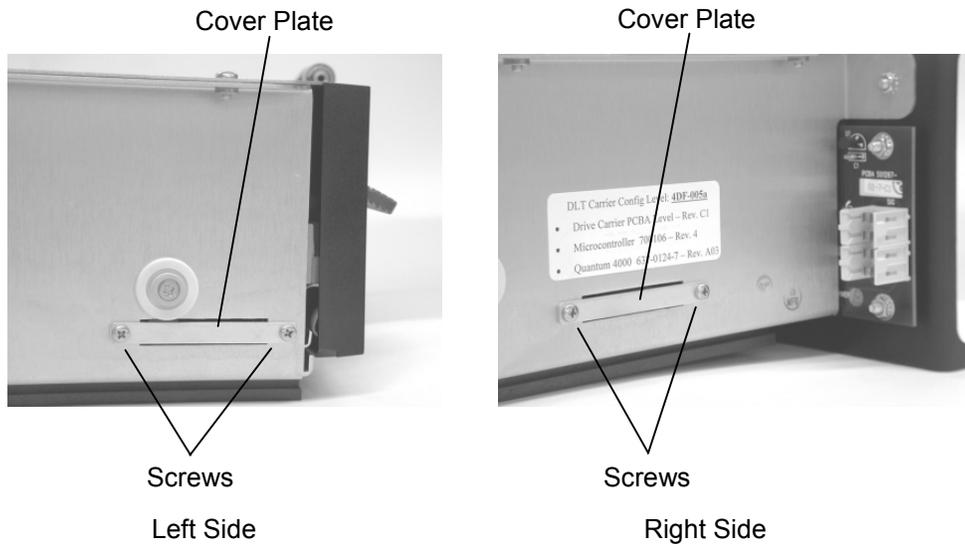

Figure 5-17 Cover Plates in the Closed Position (DLT 4000, 7000 and 8000 Tape Drives Only)
4. When installing Quantum DLT 4000, 7000 and 8000 drives check the left and right sides of the Tape Drive Assembly to determine if the cover plates are closed (Figure 5-17). Both plates must be closed before installing a Tape Drive Assembly in a TLS.